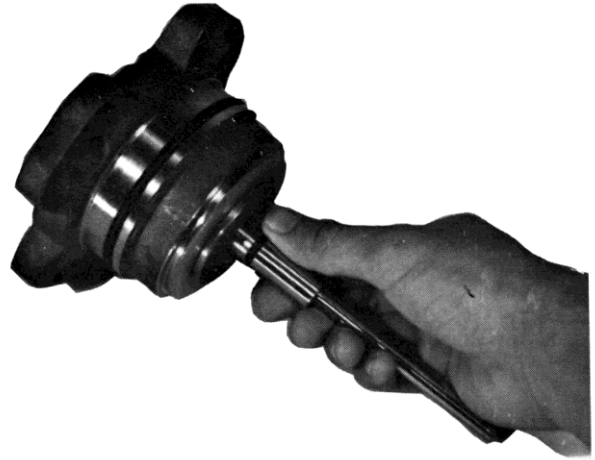

Figure 4
Lube stem bore in bonnet (9). Ease stem (22) in from bottom of bonnet (9) to prevent snagging of O-ring (24), (Figure 4). Turn bonnet upside down until stem (22) is protruding upward.